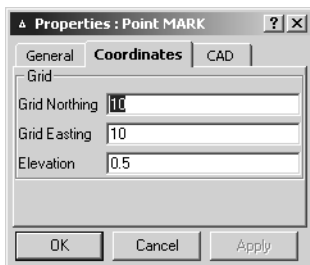

Figure 4-30. Coordinate Properties – Coordinates Tab
2. On the *Properties* dialog box, click the *Coordinates* tab (Figure 4-30).
2. On the *Properties* dialog box, click the *CAD* tab (Figure 4-30).